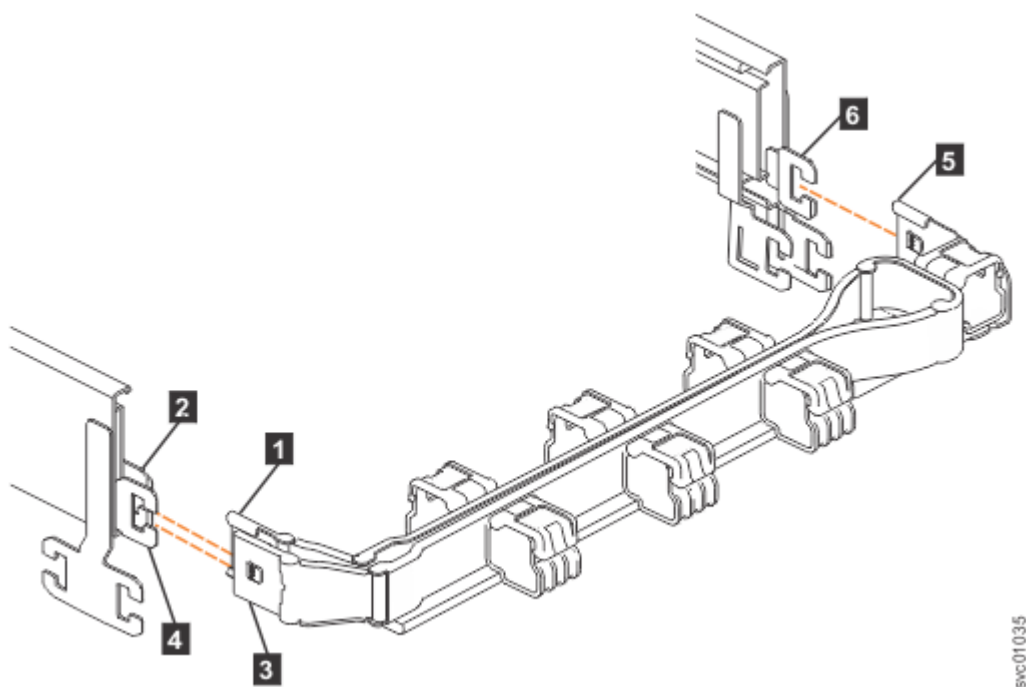
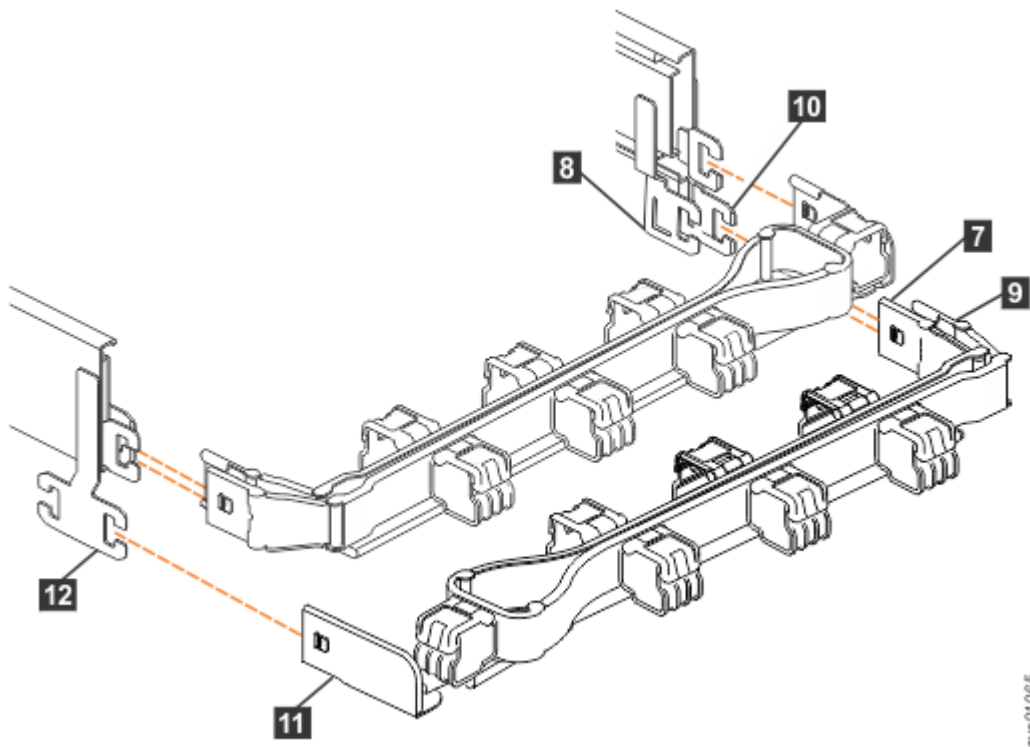

Figure 54. Connectors for the upper cable management arm
Figure 55. Components of the lower CMA assembly
The connectors of the CMA are installed on the rail hooks at the end of the support rails. Figure 54 on page 54 shows the connectors on the upper CMA assembly.
1. Press the latch on the connector base on the upper CMA assembly (5 in Figure 54 on page 54).
2. Pull the connector to remove it from the connector base on the right support rail (6 in Figure 54 on page 54).
3. Press the latch on the outer connector of the upper CMA assembly (3 in Figure 54 on page 54).
4. Remove the outer connector from the inner member of the left support rail (4 in Figure 54 on page 54).
5. Remove the inner connector of the upper CMA assembly (1) from the inner member of the left support rail (2), as shown in Figure 54 on page 54.
Note: The procedure for removing the lower CMA assembly is the same as the procedure to remove the upper CMA assembly. However, the connector locations are reversed. For example, the connector base of the upper CMA (5 in Figure 54 on page 54) connects to the right rail. The connector base of the lower CMA (11 in Figure 55 on page 55) attaches to the left rail.
6. Remove the connector base on the lower CMA assembly (11) from the connector on the left support rail (12), as Figure 55 on page 55.
7. Remove the inner connector of the lower CMA assembly (9) from the outer member of the right support rail (10), as shown in Figure 55 on page 55.
8. Remove the outer connector of the lower CMA assembly (7) from the inner member of the right support rail (8), as shown in Figure 55 on page 55.